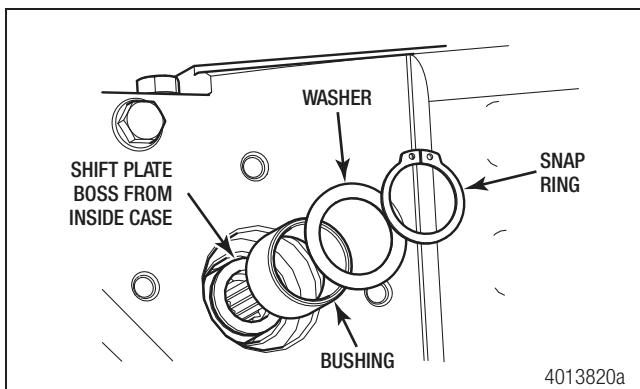

Figure 7.7
2. Secure install the bushing, washer and snap ring on the shift plate boss. Driver #2 in "Tools" on page 60 can be used to install the selector cam bushings. Figure 7.7.